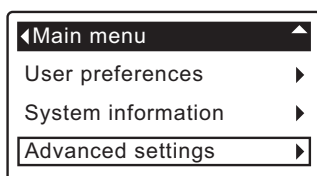

FIG. 64
2. Press the DOWN ▼ button to scroll through the menu options until **Advanced settings** is highlighted (See Figure 64).